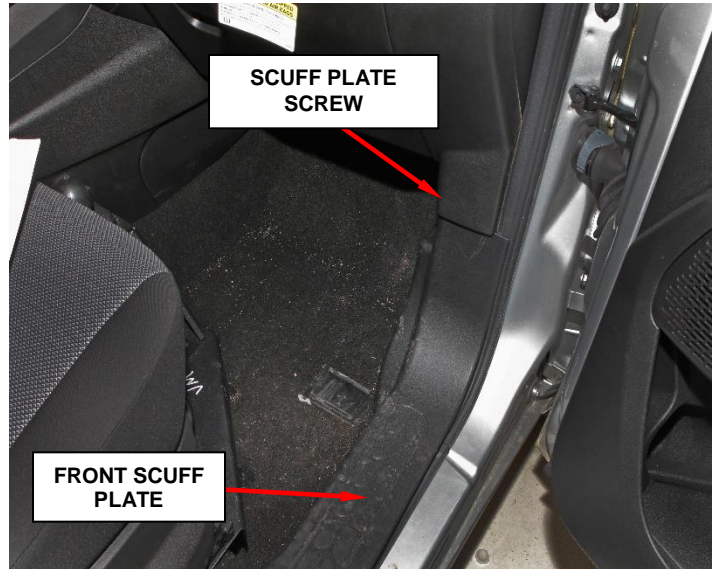

Figure 7 – Front Scuff Panel
6. Remove the front scuff plate screw at kick panel (Figure 7).